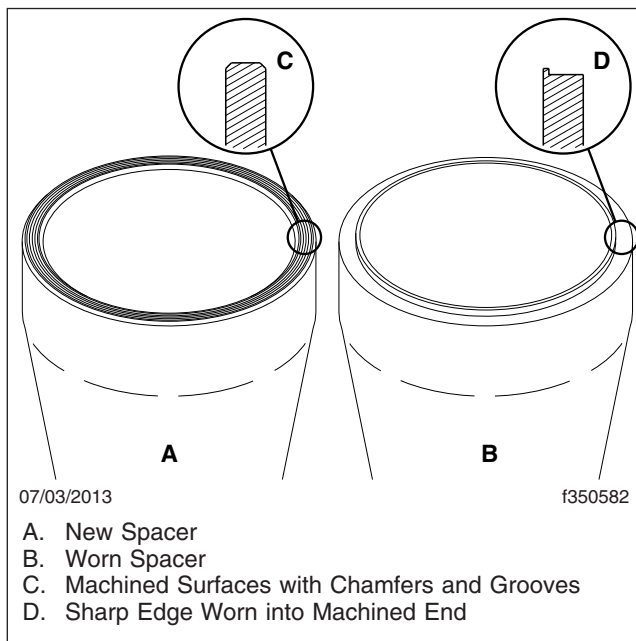

Fig. 10, Comparison of New and Worn Bearing Spacers
2. Inspect the bearing spacer for signs of wear or damage. Look for a sharp ring of standing metal that has been worn into the spacer at either end; see **Fig. 10**. If the spacer is worn or damaged, replace it.